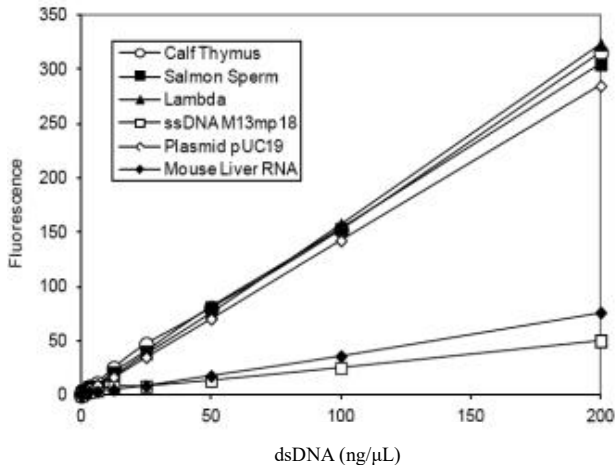
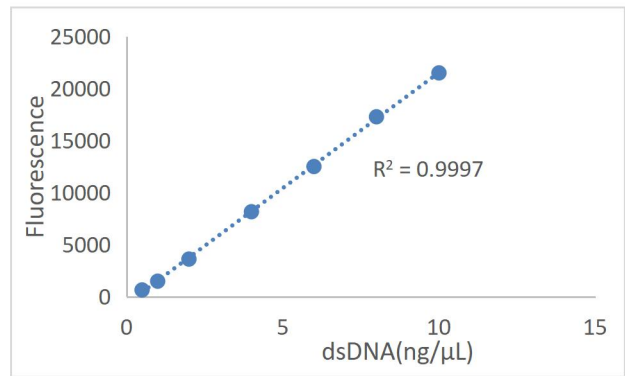

Figure 2. Relative fluorescence intensities from different types of nucleic acids detected using the WonderBlue® High Sensitivity dsDNA Quantitation Kit.
Figure 3. Calf thymus DNA standard curve using the WonderBlue® High Sensitivity dsDNA Quantitation Kit (Ex / Em 485/530)
distinguish dsDNA, ssDNA or RNA, and selectively detect dsDNA (Figure 2). Compared with traditional DNA quantification methods, this product has the advantages of wide detection range, high sensitivity and high specificity. The kit contains three components: WonderBlue® High Sensitivity dsDNA Quantitation Buffer, Enhancer solution and pre-diluted dsDNA Standards. It can quantify 0.2-100 ng dsDNA in 200 μL system (Figure 3). In addition, the kit can minimize the effects of other pollutants, and can tolerate conventional pollutants such as proteins, salts, organic solvents and detergents (Table 1). The kit has no permeability, no cytotoxicity and no induced mutagenesis, and is harmless to human.
8. Make a standard curve and calculate the DNA concentration of the test sample (Figure 2).
Note: The standard curve in Figure 3 is for reference only. You